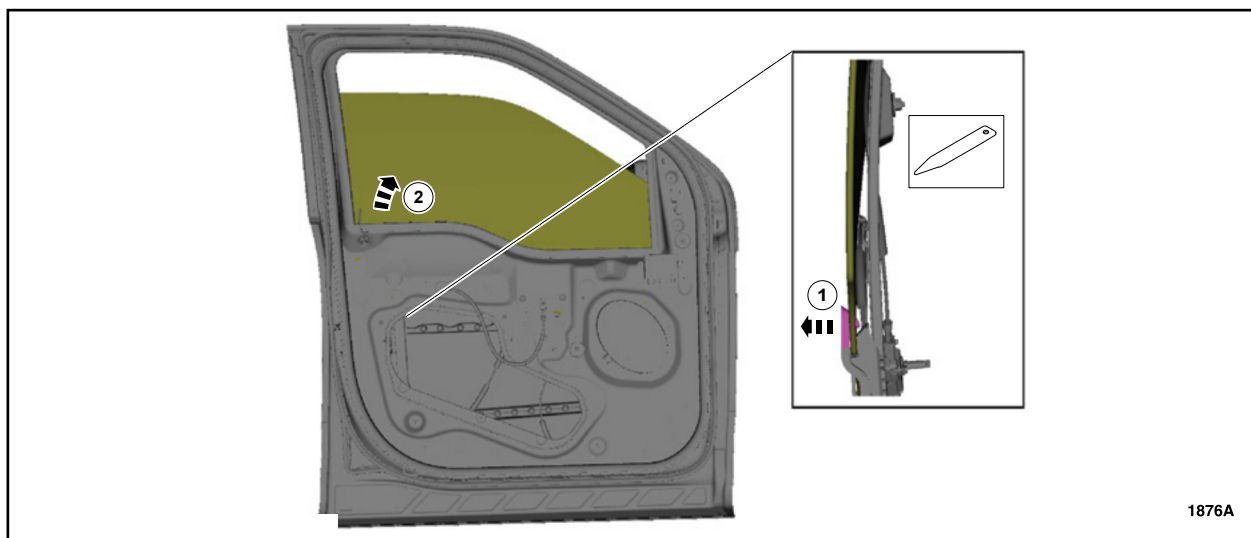

FIGURE 5
6. With the latch side of the front door glass top run still positioned aside, raise the front door window glass three quarters of the way up. See Figure 5.
7. Release the latch side front door window regulator retaining clip from front door window glass. See Figure 5.
25. Position back the latch side front door window regulator and reinstall front door window regulator nut adhesive cover, then attach the window glass retaining clip by reversing Steps 7 and 8. See Figures 5 and 6.